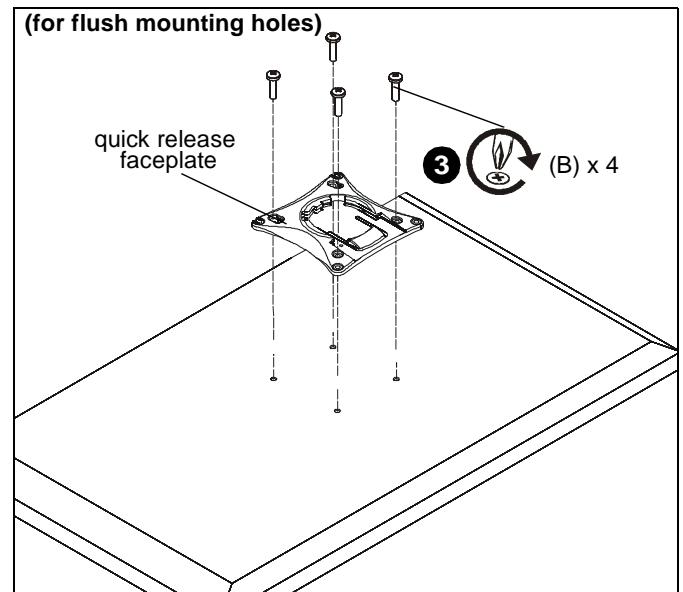

Figure 9
- Using Phillips screwdriver, carefully install four M4x14mm screws (B) through corresponding holes on faceplate and into the mounting holes on the display. (See Figure 9)